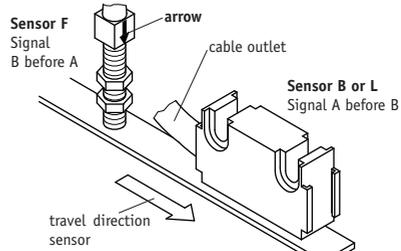

Fig. 6: Definition of counting direction
- **Sensor must be aligned correctly with respect to the counting direction (see fig. 6).** This can be ignored if counting direction can be changed
- When mounting the magnetic sensor, ensure that the gap between strip & sensor and the max. admissible deviation are maintained over the total measuring length! (see fig. 6)
- Sensor has not been aligned according to fig. 6, 7, 8.